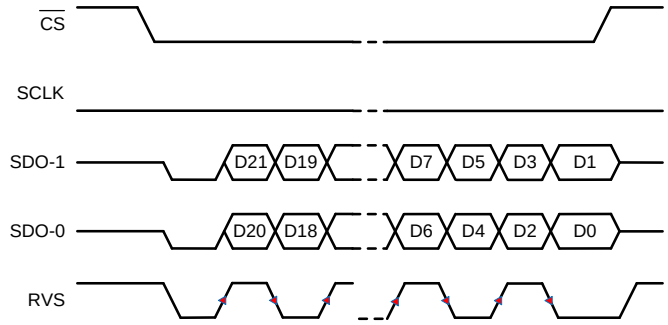

**Figure 80. SRC-INT-DD: SRC, INTCLK, Dual SDO, DDR**
| SRC-INT-DD | INTCLK (3)     | Dual      | DDR              |                                      | 5Bh      | 5                                  | <a href="#">Figure 80</a> |